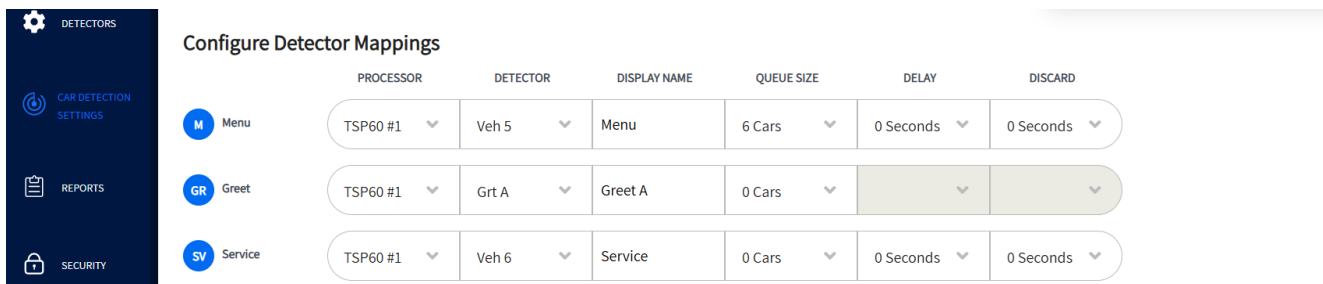

Fig. 8.4
3. Use the **Configure Detector Mappings** option to configure them (Fig. 8.4).
The **Configure Detector Mappings** section allows you to map your detectors to a Vehicle Number (Veh #). This Veh # correlates to the Veh # on the TSP, so you must map accordingly to match the actual connection. You can assign a descriptive name in the DISPLAY NAME field and choose your QUEUE SIZE from the drop-down list, which is the number of vehicles that can fit between this detection point and the next. For example, in Fig. 8.4, “Menu (M),” the second detector in Preview is mapped to Veh 5, and assigned the display name “Menu,” and the queue size selected is “6 Cars.” This indicates that six vehicles can fit between this detection point and the next detection point (Service). “Service (SV),” the third detector in Preview is mapped to Veh 6 and assigned the display name Service.